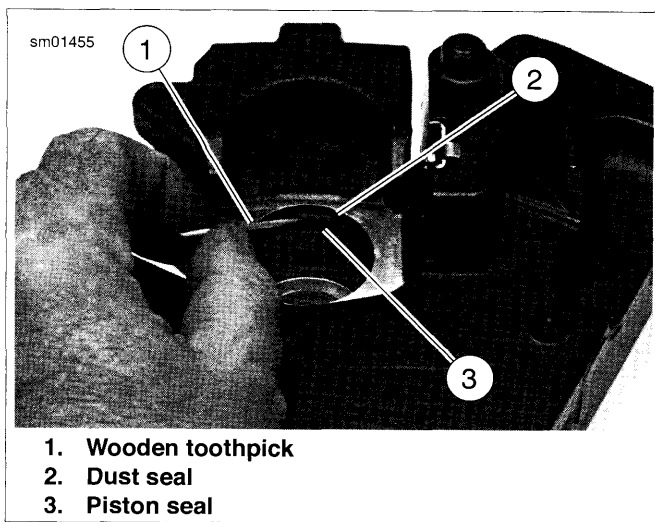

Figure 2-100. Caliper Seals
2. See Figure 2-100. Install a **new** piston seal (3) and a **new** dust seal (2) into piston bore.